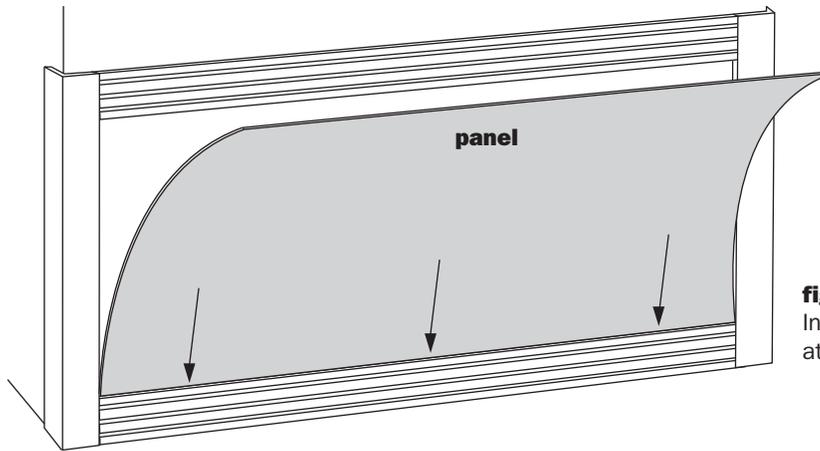

figure 4
- Begin at one corner, and tilt the panel away from wall. Install the bottom edge of the panel into the slot in the back of the base rail (**see figure 4**).